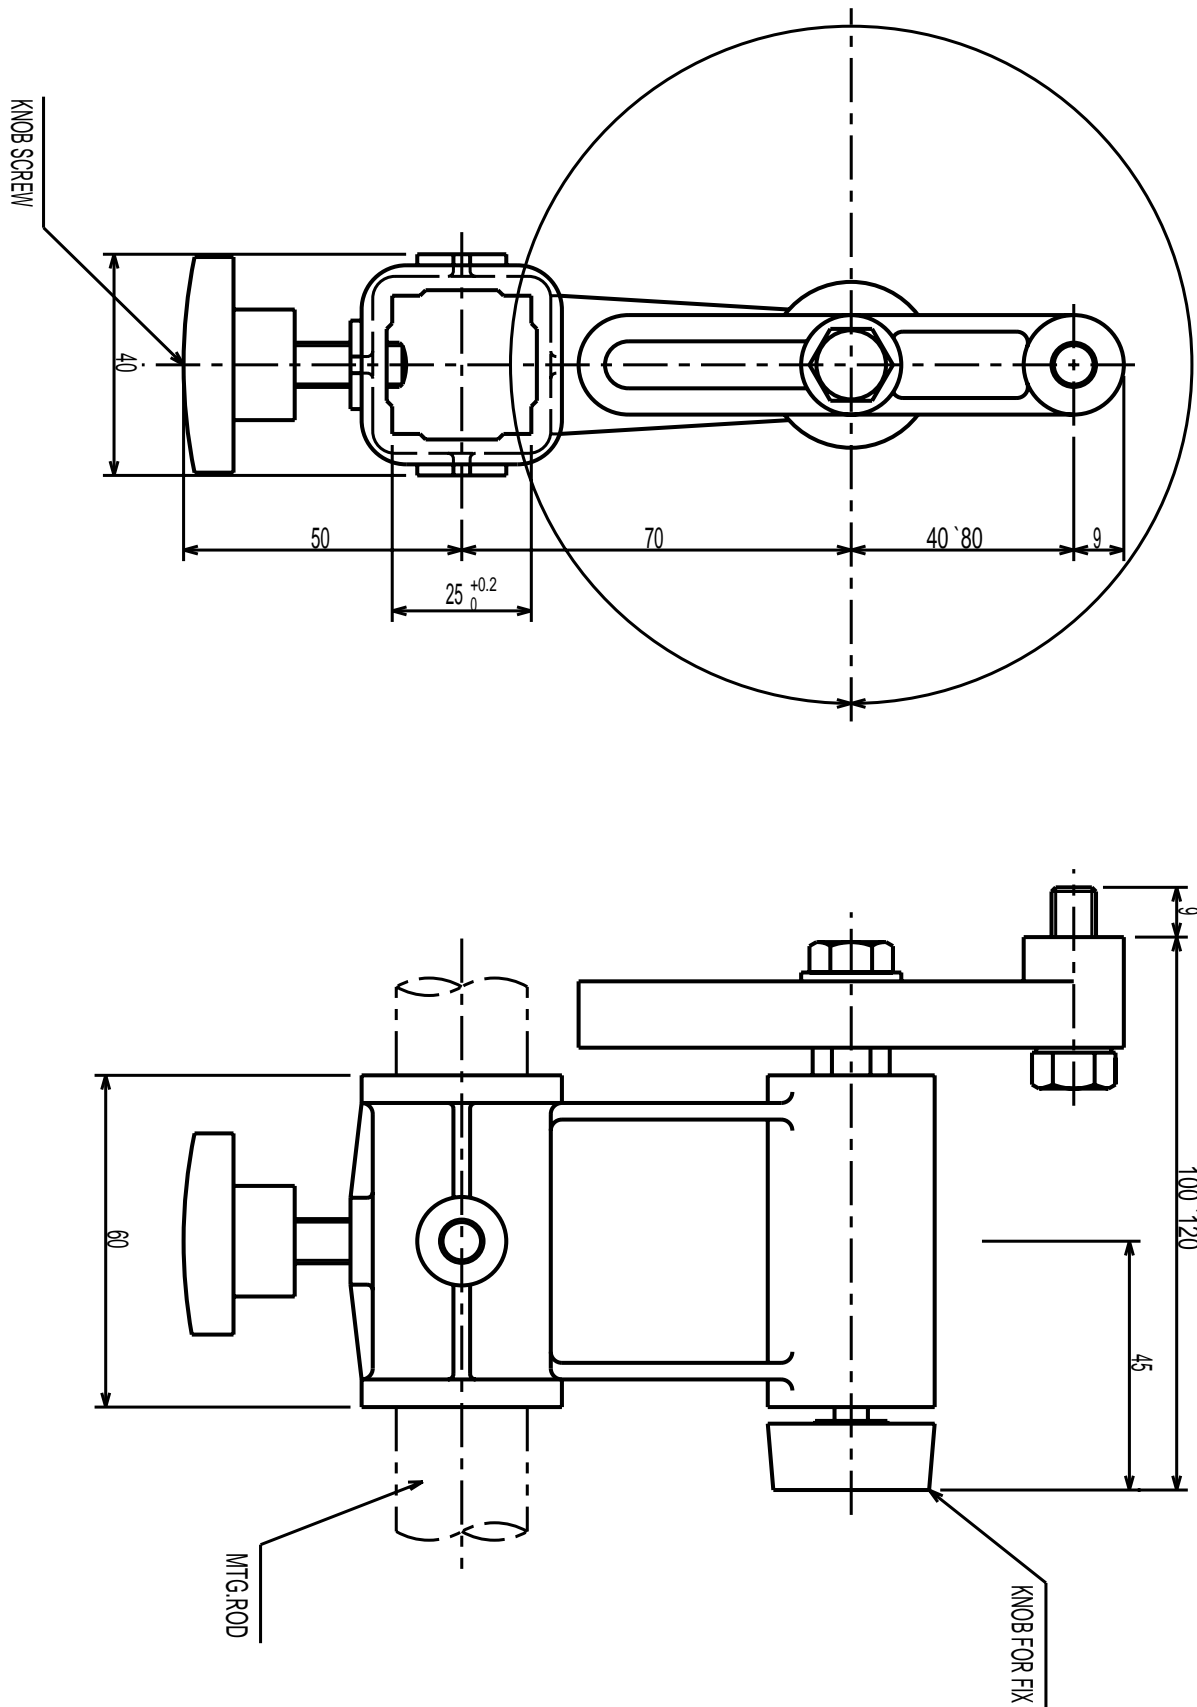

FIGURE 7
3. Remove Adjustment Screw Cap (See Fig. 7).
(See Fig. 7).